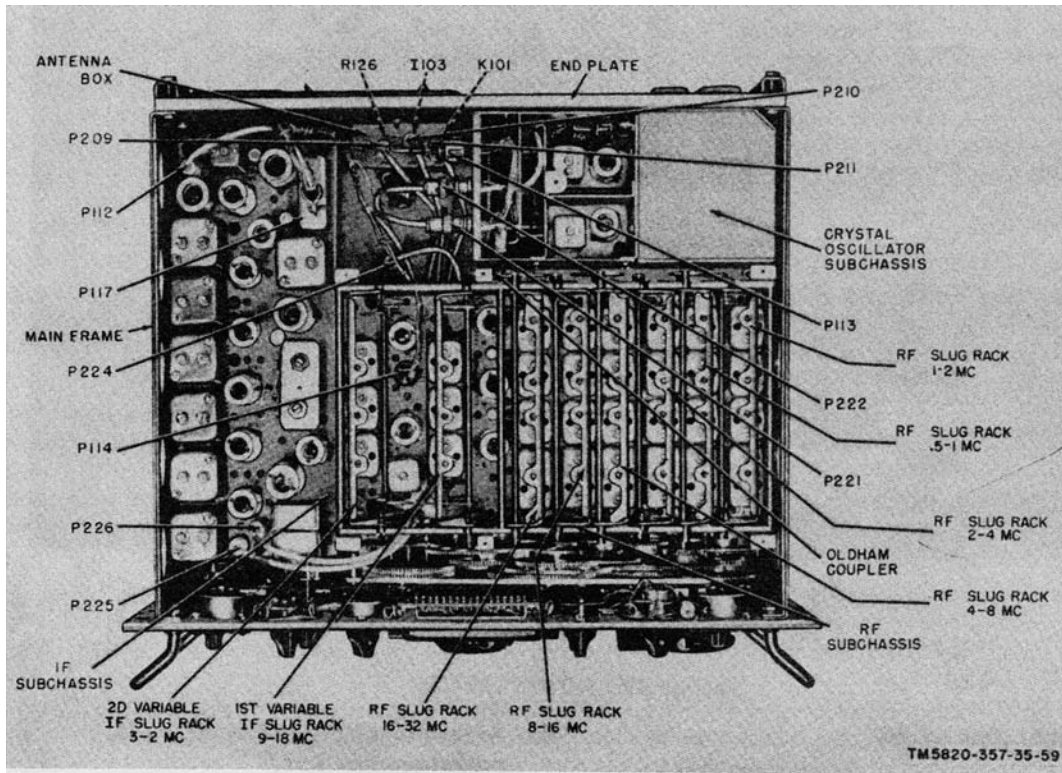
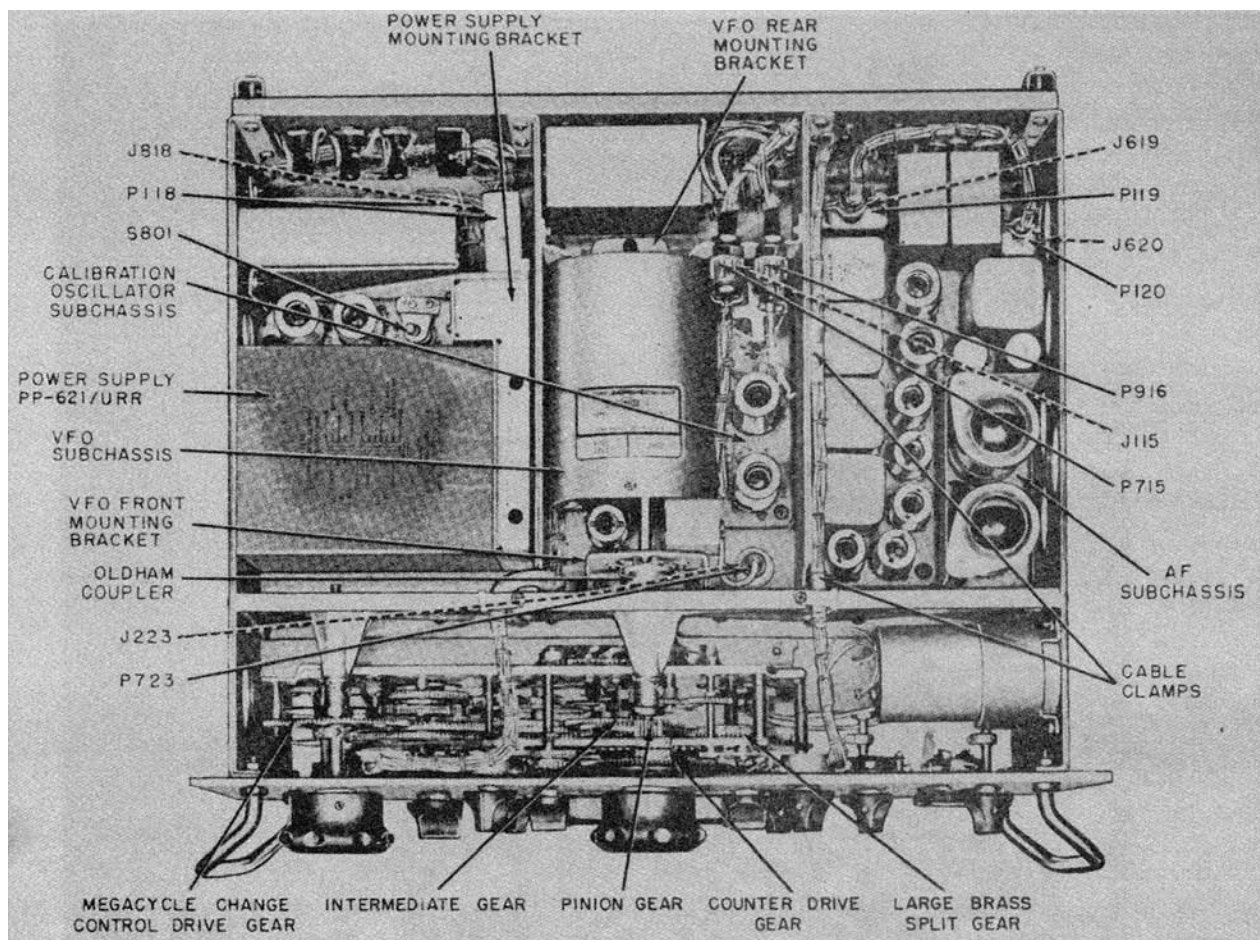

Figure 41. Receiver, top view, dust cover removed.
Figure 42. Receiver, bottom view, dust cover removed.
- (1) Lower the subchassis straight down into the receiver.
- (2) Tighten the three green captive screws.
- (3) Reconnect plug P117 (fig. 41).
- (4) Reconnect coaxial connectors P225, P226, and P112.
- (5) Tighten the clamp screws on the BANDWIDTH and BFO PITCH control shafts, and couple the shafts by
- (6) Replace the top dust cover.
62. Power Supply PP-621/URR (fig. 42)
- (1) Carefully lower the subchassis into the receiver.
- (2) Tighten the green captive screw in the corner of the subchassis near tube V802.
- (3) Replace and tighten the four green 7/16-inch screws that secure the power transformer to the side of the main frame. Use screws only of this size.
- (4) Tighten the two hidden captive screws through the holes in the power supply mounting bracket (fig. 42).
- (5) Reconnect large connector P118 and J818.
- (6) Replace the bottom dust cover.
63. Vfo Subchassis (fig. 42)
- (1) If the position of the vfo tuning shaft has been disturbed while the subchassis was removed from the receiver, or if a new vfo is to be installed, synchronize the shaft as described in paragraph 73.
- (2) If the position of the shaft has not been disturbed, place the floating disk on the flange of the vfo drive shaft. Position the ridge on the coupler flange of the vfo tuning shaft 90° from that of the flange on the drive shaft, and carefully insert the vfo subchassis into place. Tilt it slightly to clear the receiver frame.
- (3) Tighten the three green screws on the subchassis mounting brackets.
- (4) Replace the loading spring on the Oldham coupler.
- (5) Connect P715 to J115 and P723 to J223 (fig. 42). (See the note below.)
- (6) Replace the bottom dust cover on the receiver.
- (7) If the vfo setting has been disturbed, refer to paragraph 73 for synchronization procedures
64. Calibration-Oscillator Subchassis (fig. 42)
- (1) Remove the bottom dust cover from the receiver.
- (2) Disconnect plugs P715 and P916.
- (3) Disconnect coaxial connector P224 on the top deck of the receiver (fig. 41).
- (4) Loosen the two green captive screws at opposite ends of the subchassis.
- (5) Carefully lift the subchassis out of the receiver.
- (2) Tighten the two green captive screws at opposite ends of the subchassis.
- (3) Connect coaxial connector P224 on the top deck of the receiver (fig. 41).
- (4) Reconnect plugs P715 and P916.